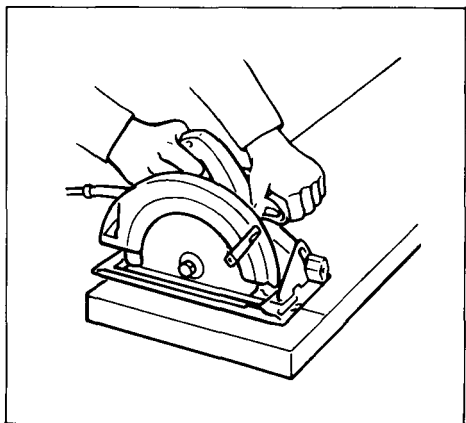
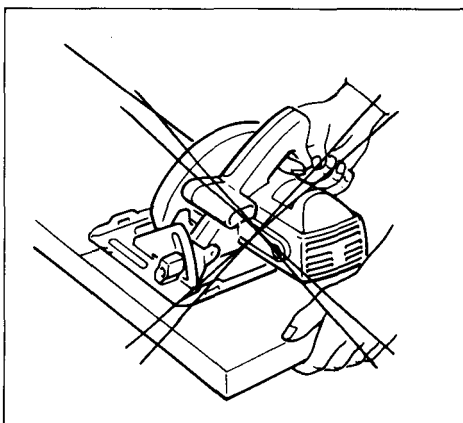

Fig. 5
Fig. 6
12. Place the wider portion of the saw base on that part of the workpiece which is solidly supported, not on the section that will fall off when the cut is made. As examples, Fig. 5 illustrates the RIGHT way to cut off the end of a board, and Fig. 6 the WRONG way. If the workpiece is short or small, clamp it down. **DON'T TRY TO HOLD SHORT PLECES BY HAND!**